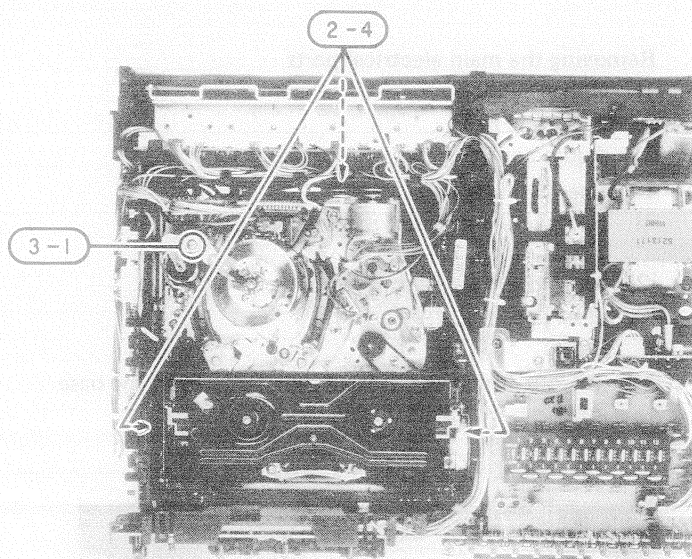

Fig. 22
2. Main chassis (Fig. 22)
- 1) Remove the cylinder motor GND piece (Fig. 22)